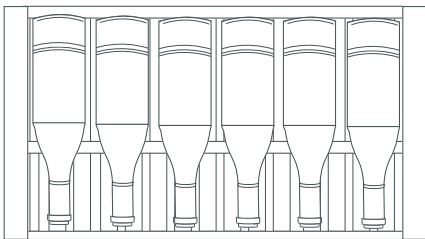

Fig. 3
- The first shelf holds 6 bottles arranged as per Fig. 3, with an additional bottle stacked on either side of the controls, for a total of 8 bottles per the first shelf.
- The second shelf holds 6 bottles arranged as per Fig. 3.
- The sixth through ninth shelves hold 6 bottles arranged as per Fig. 3.
- The bottom of your wine cooler contains a 2-tier wooden rack which accommodates 6 bottles per rack, arranged as per Fig. 3; this allows for a total of 75 (750mL) bottles of wine.